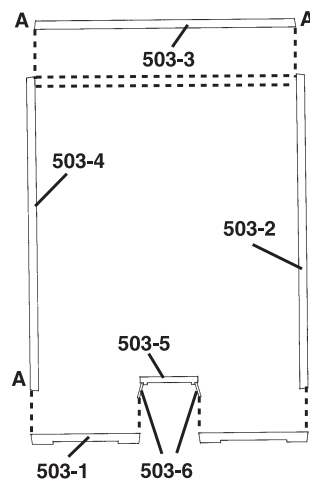
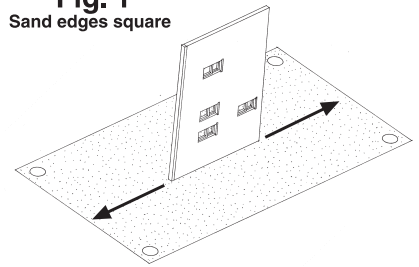

Fig. 1
Fig. 2
Wall edges are angled (draft angles) to make removal from mold easier. Draft angles need to be sanded square to allow for proper assembly and a flush fit with adjoining Walls. To square edges, thumbtack a piece of 120-grit sandpaper to a board and draw Wall back and forth evenly on sandpaper until edge is square and level (Fig. 1). Edges to be sanded square do not have brick detail and are marked "A" (Fig. 2).
2. Glue Side Panels to Entry Door (Fig. 2 and 4).